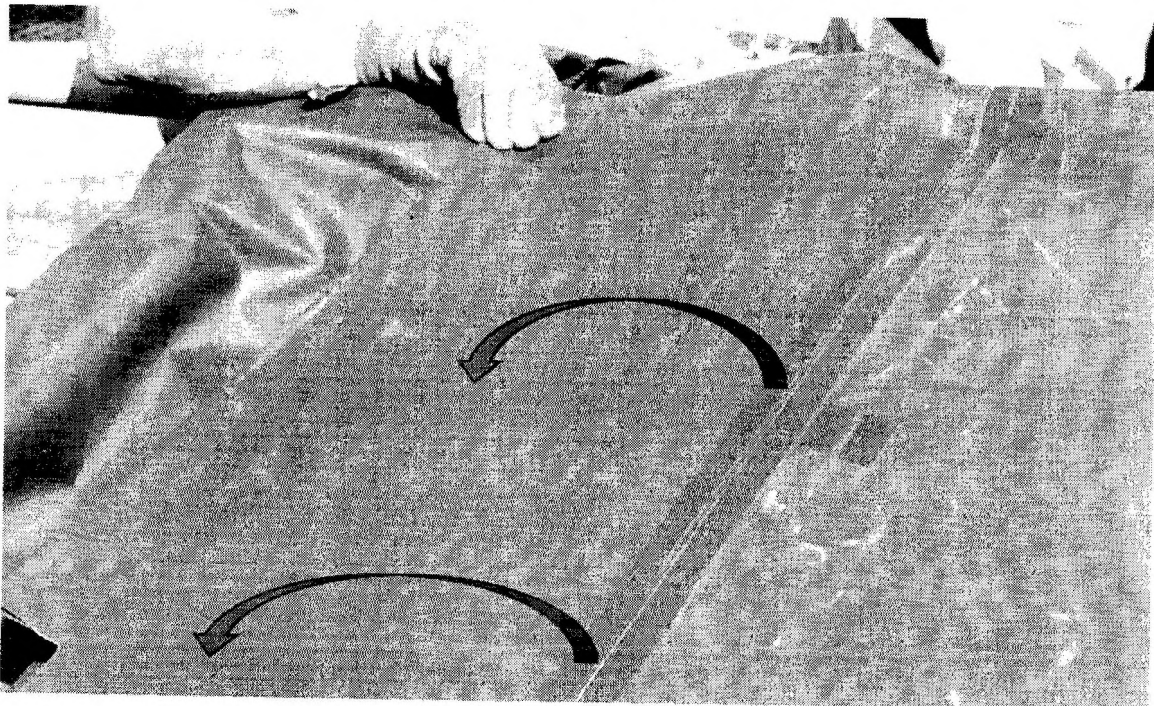

Figure 36: Ensure Water Cover is pulled into position before fitting shelter legs
41. Once the roof sections are joined together the weather covers should be folded over Fig 36 at all of the tent joints as it is very difficult to reach these flaps once the tent is erected.
48. Install the side wall and gable keder rails (J11/8340-99-477-5695) (Qty 2 each side, total 12) or complete the lacing of the end gables using the same process as detailed for the roof keder, and ensure the tent is light and waterproof by ensuring the flaps are folded over and no light can be seen from inside the tent Fig 36.